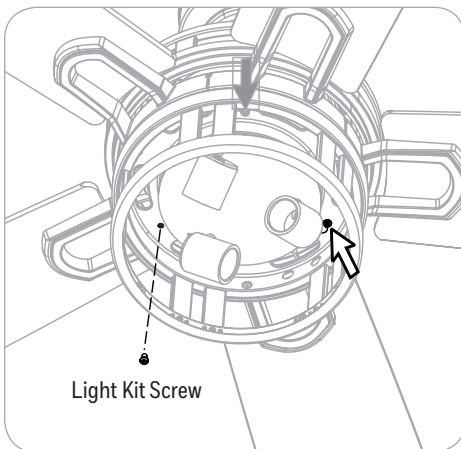

Figure 5.7
- Remove one of the light pan screws from the light pan, and loosen (do not remove) the other two screws. Then, connect the 9-pin connector from the fan to the 9-pin connector from the light kit. Then, lift the two key hole slots in the light kit over the loosened light pan screws. Turn the light kit in a clockwise direction and reinstall the previously removed light pan screw. Tighten all three screws securely (Figure 5.7).